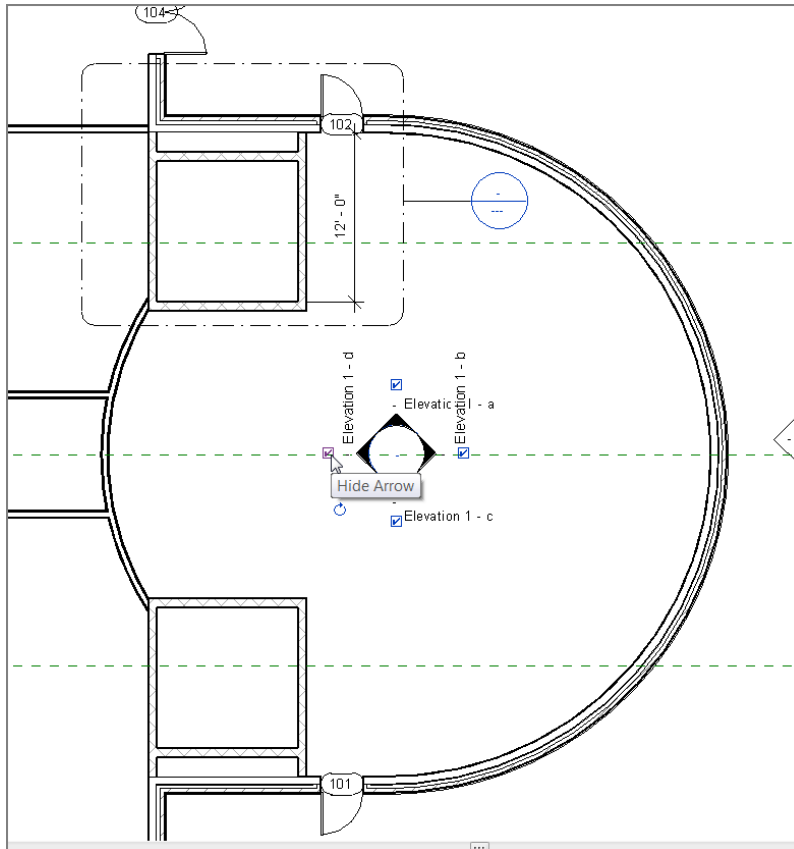

FIGURE 3.82: Turn on all four views in the lobby.
4. With the elevation marker centered in the lobby, select the round bubble. Four blue boxes appear, as shown in Figure 3.82. These boxes let you turn on multiple views. Turn on all four views, as shown in Figure 3.82.